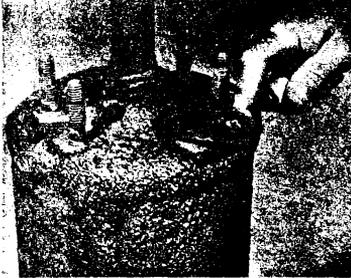

FIGURE 5
5.02 Clean the top surface of the case to expose the bare metal in the area where the No. 4 and No. 5 valve assembly holes are to be drilled. (Figure 5)